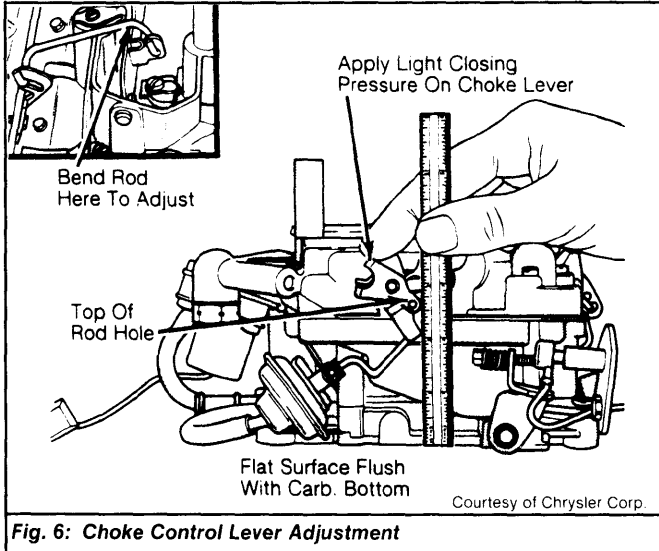

Fig. 6: Choke Control Lever Adjustment
1) Place carburetor on a flat surface. Make sure bottom of throttle body is flush with flat surface and that flat surface extends out under choke control lever. See Fig. 6.